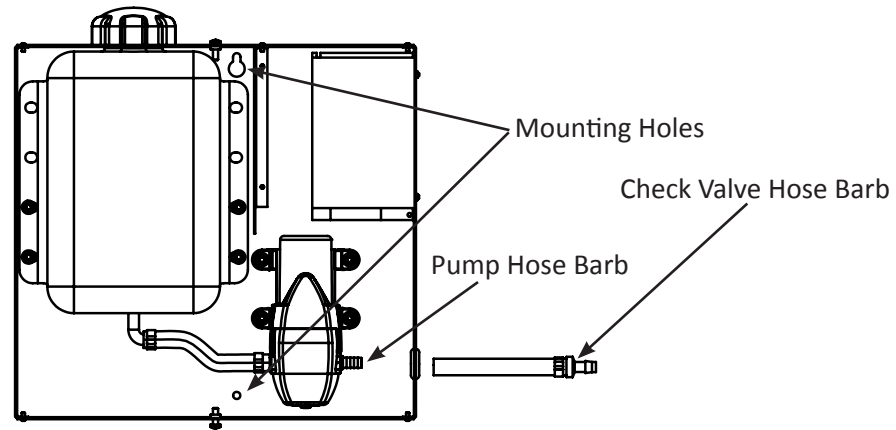

Figure 1: Geo-Booster with cover removed
1. Mount the Geo-Booster to a well supported structure such as a framed or concrete/masonry wall using appropriate mounting hardware (Figure 1).
2. Install the check valve by inserting the end of the flexible braided hose with the check valve attached through the rubber grommet in the right side of the cabinet (Figure 1) and securing to the pump hose barb with a hose clamp. Attach the long hose to the check valve hose barb fitting using a hose clamp. Ensure the hose will reach the intended plumbing point in the loop system.
2. Install the check valve by inserting the end of the flexible braided hose with the check valve attached through the rubber grommet in the right side of the cabinet (Figure 1) and securing to the pump hose barb with a hose clamp. Attach the long hose to the check valve hose barb fitting using a hose clamp. Ensure the hose will reach the PT plug in the elbow on the heat pump.